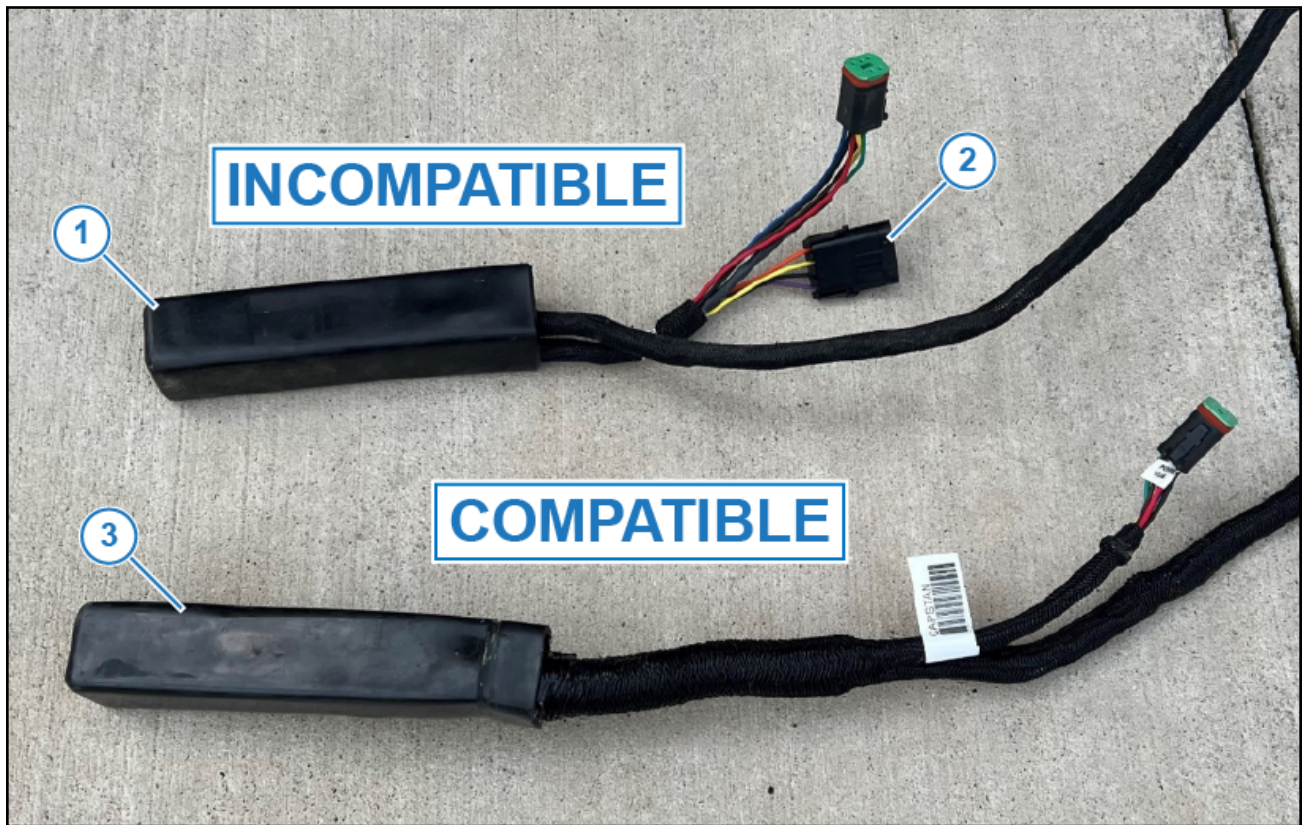

Figure 1: VCM Compatibility
- Incompatible VCM: A9 Style (Figure 1, Item 1) with 4-pin Weather Pac programming connector (Figure 1, Item 2).
- Compatible VCM: A14 Style (Figure 1, Item 3) without programming connector
- Verify VCM compatibly, refer to Figure 1.